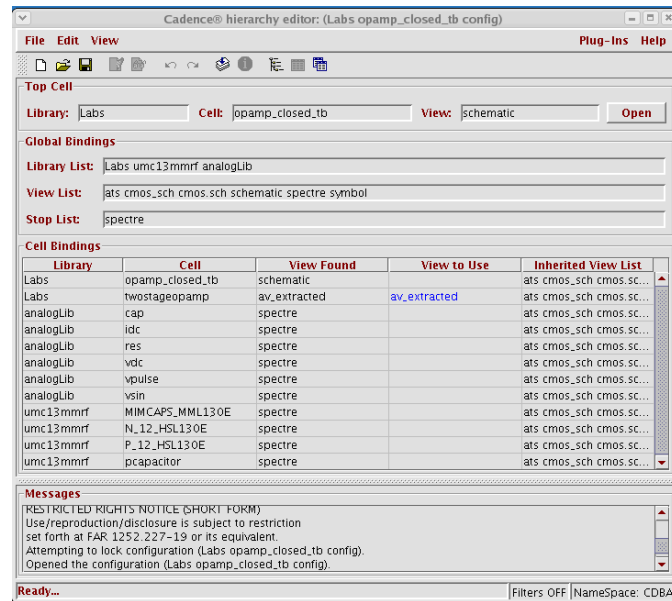

Figure 16: The Config Hierarchy browser window.
1. In the Library Manager, choose *File > New > Cellview ...*, and choose the view *config* for your closed-loop opamp test bench (*opamp_closed_tb*). In the hierarchy editor window (see Fig 16, you must now define your Top Cell as *Labs, opamp_closed_tb, schematic*. Moreover, fill out:
2. In the Library Manager, open the *opamp_closed_tb config* view. Click the two yes-checkboxes in the next window to open both the config and the schematic view. Open the simulation tool from the schematic window, and repeat the AC and transient closed-loop simulations. Plot relevant curves. Then in the hierarchy editor, change the view of the cell *twostageopamp* to *av_extracted* by right-clicking in the field 'view to use', and choosing *av_extracted* in the **Set Cell View** menu that appears. The Hierarchy Browser window should look like the one in Fig 16. Press Update in the top menu! Compare the outputs of the amplifier for both simulated views: the closed loop gain ($A(s)$), the AC response, and the transient response to a step signal as in laboratory 3.